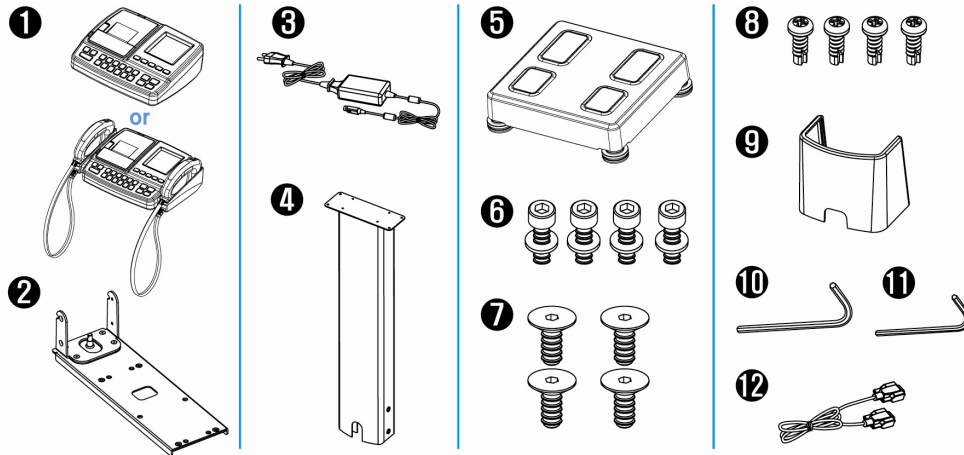

Figure 3-6. Optional Column Components
1. Use the component parts shown in Figure 3-6.